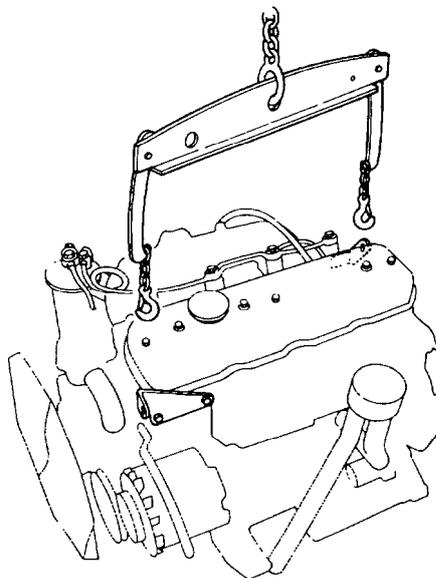

Figure 10 Engine Lifting
- dd.** Position the overhead lifting equipment over the engine and secure the chains to the engine lifting brackets (Figure 10). Take the weight of the engine with the lifting equipment.